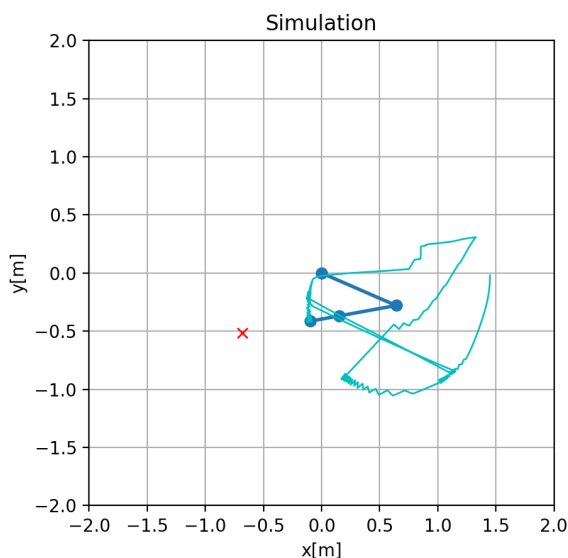

Fig 3. Simulation of the manipulator, including end-effector goal.
- 2) Plot presenting the visualisation of the robot structure in motion (see Fig. 3).